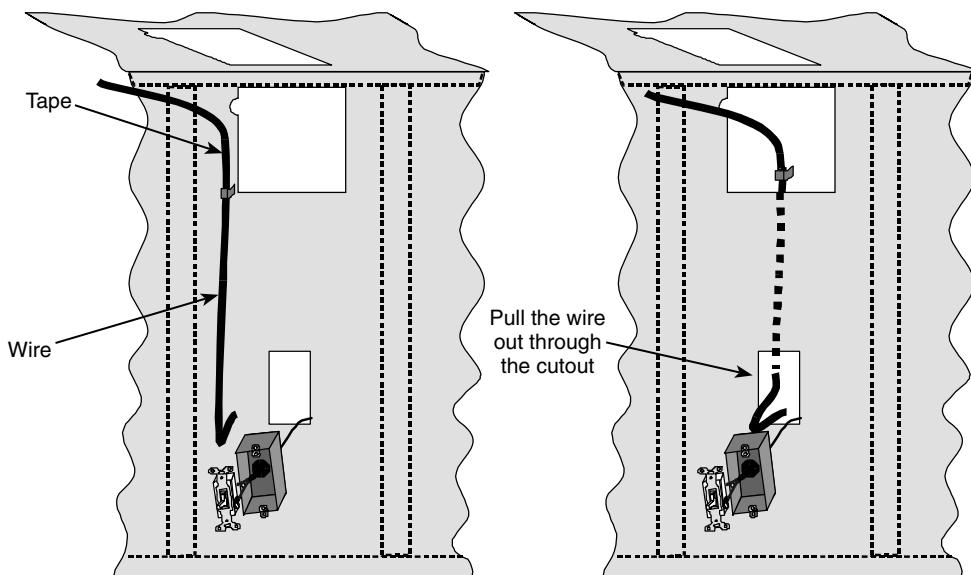

Figure 8-10
- Measure from the ceiling to the switch, and put a piece of tape on the wire a little further up than that, to show you when you've pushed enough wire into the wall to get down to the switch. Figure 8-10 illustrates this step.